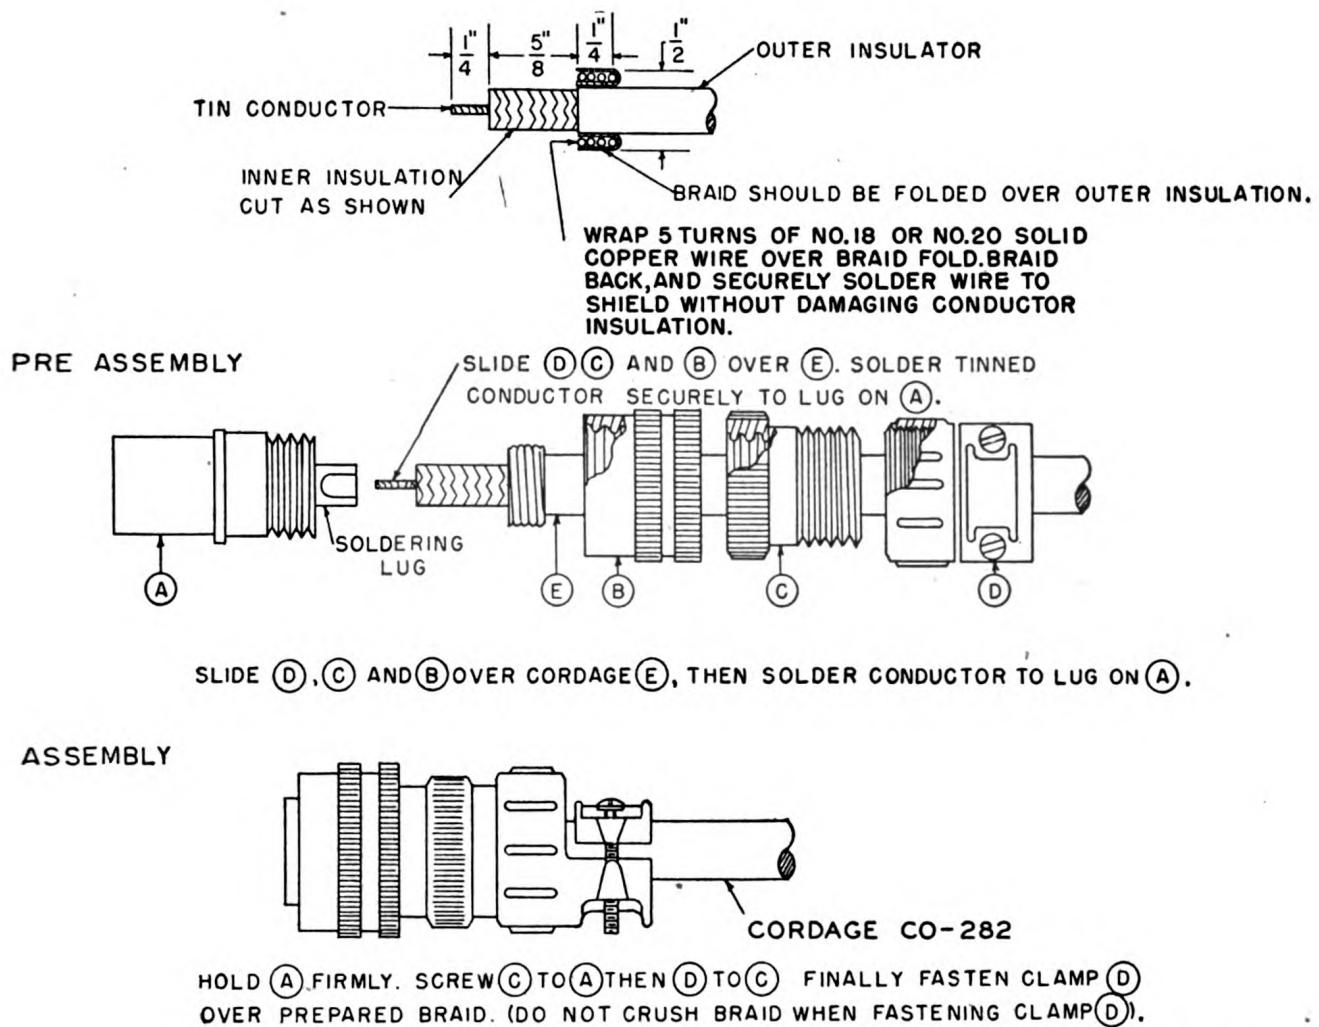

Figure 34. Preparation of coaxial cable, Cordage CO-282.
c. CORDAGE CO-282. (1) Before installing the cable, attach the appropriate cable connectors to either end. Do this carefully. Make all solder joints tight and take every precaution to tape the ends so that the outer covering of the cable does not fray out and moisture cannot seep in.
(2) Figure 34 explains the steps necessary